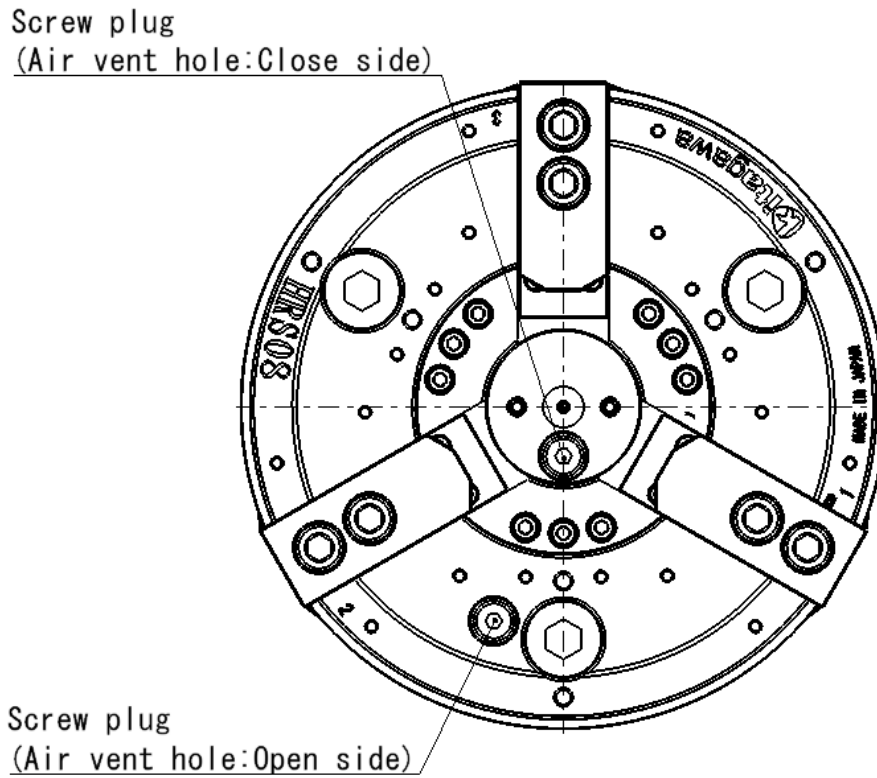

Figure 16
- ⑥ Turn on the machine power, and operate the chuck several times at 0.5 MPa, and confirm that is no abnormality.
- ⑦ If its normal, confirm that the master jaw base line moves within the full stroke range. (Refer to page 19.) If it does not move for the whole full stroke range, loosen the screw plug (See Figure 16) and vent the air.